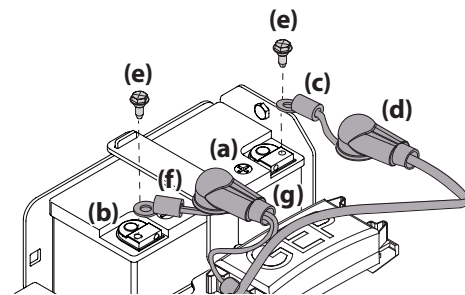

Figure 2
NOTE: The positive battery terminal is marked POS. (+) (a). The negative battery terminal is marked NEG. (-) (b). See Figure 2.
NOTE: If the positive battery cable (c) is already attached, skip ahead to Step 4. See Figure 2.
2. Slide the red boot (d) from the positive battery terminal (a) and attach the red cable (c) with the vertical mount bolt (e). See Figure 2.
3. Position the red boot (d) over the positive battery terminal (a) to insulate it and help protect it from corrosion. See Figure 2.
4. Slide the black boot (g) from the negative battery terminal (b) and attach the black cable (f) to the negative battery terminal (b) with the vertical mount bolt (e). See Figure 2.
5. Position the black boot (g) over the negative battery terminal (b) to insulate it and help protect it from corrosion. See Figure 2.